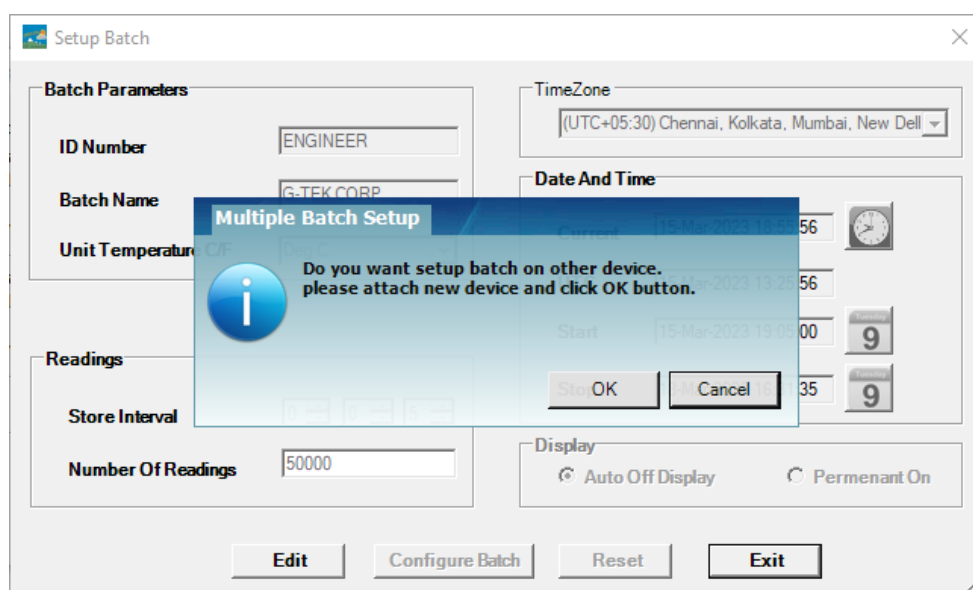

Figure 6 Set up Batch on Multiple devices
- After configuring the first device, message window will be pop up as shown in figure 6. Connect another device to the PC application, click on “OK” button to proceed further.